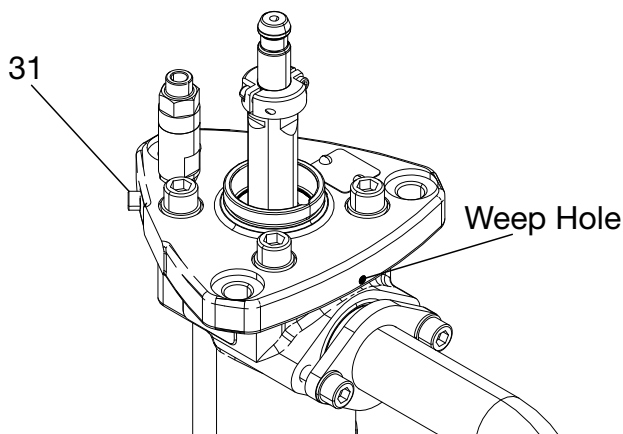

Fig. 1.
The weep hole in the pump mount plate (15) functions as a drain for TSL that may have been applied to the back up seal, and in case the back up seal is missing or damaged. The pipe plug (31) is used for some options See figure 1.